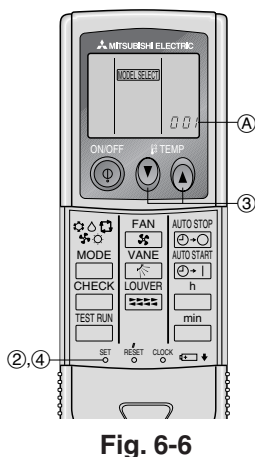

Fig. 6-5
2) Installation method (Fig. 6-5)